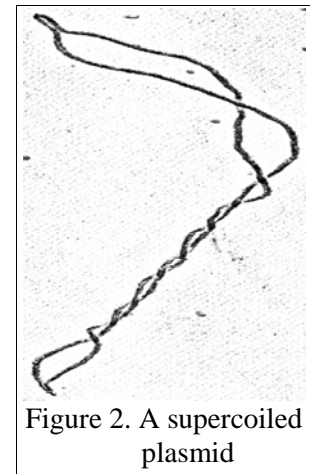

Figure 2. A supercoiled plasmid
- **Supercoiled (Fig 2):** One of the topoisomerases (DNA gyrase) nicks one strand of the DNA and rotates it around the other. This introduces a torsional force that results in the plasmid DNA wrapping around special protein molecules to make them more compact in the bacterial cell. The miniprep process strips away the supporting proteins and leaves the DNA molecule to coil about itself. Under most conditions, the supercoiled plasmid is the fastest migrating form. Therefore, the fastest moving band in uncut, plasmid DNA is assumed to be the supercoiled form.